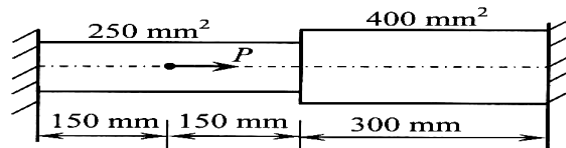

Fig. Q6
- 6. Determine the nodal displacements, elements stresses and support reaction of the axially loaded bar shown in Fig.Q6. Take  $E = 200 \text{ GPa}$  and load  $P = 300 \text{ kN}$ . 20